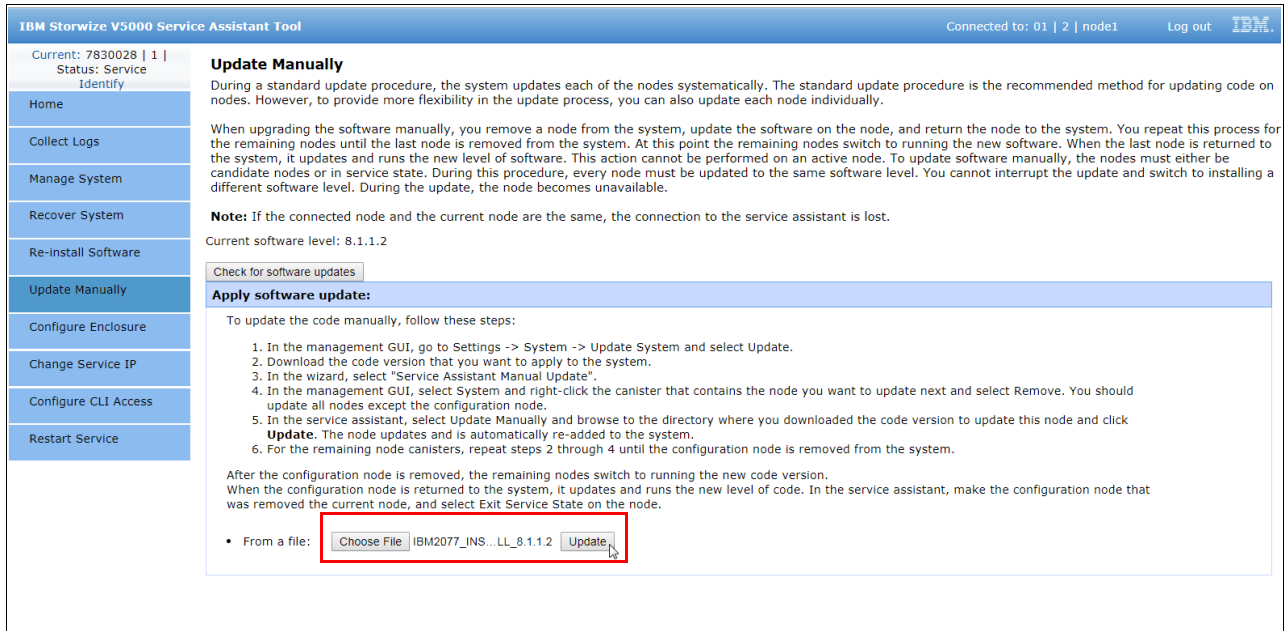

Figure 12-56 Starting the update in the Service Assistant Tool
11. In the Service Assistant Tool, select **Update Manually**, and choose the required node canister software upgrade file, as shown in Figure 12-56.